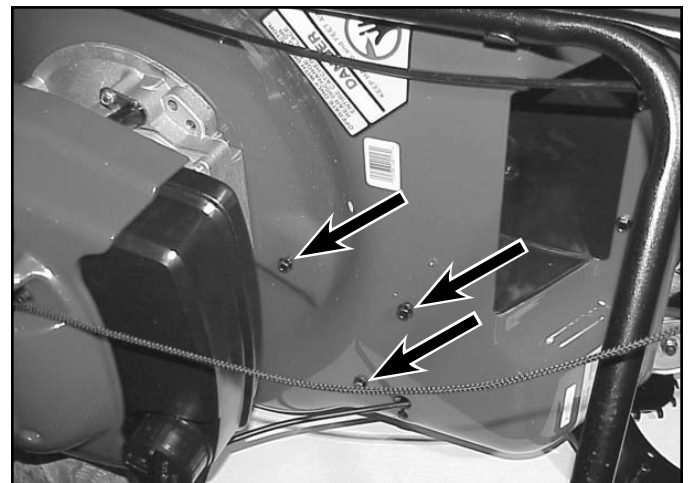

Fig 073
17. Remove 3 screws that secure the belt cover to the housing (Fig. 073).